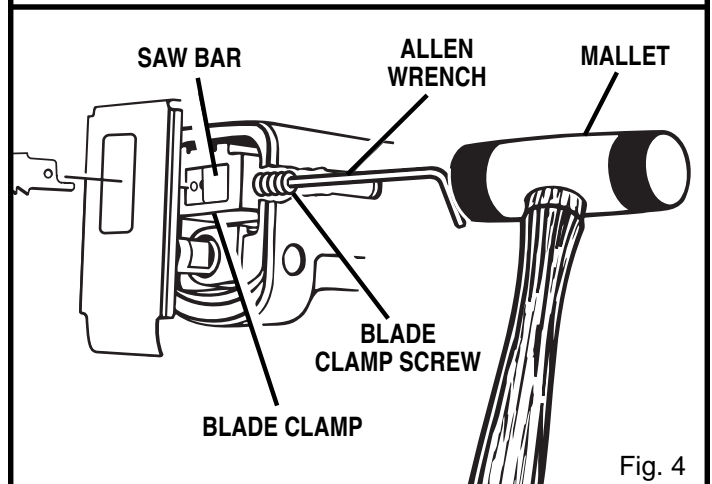

Fig. 4
**NOTE:** There may be times when the blade clamp sticks to the saw bar and will not loosen enough to allow blades to be installed or removed. If this happens, loosen the blade clamp screw with the allen wrench, then tap lightly on the end of the allen wrench with a mallet. See Figure 4.